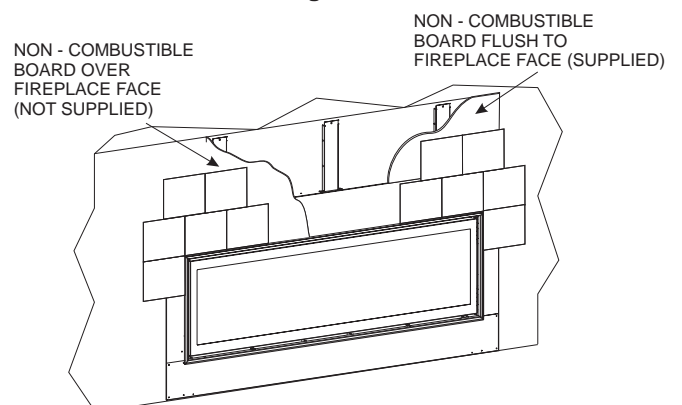

Figure 35
- **Figure 35** shows both finishing options.